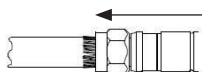

Fig. 2
5. Push the connector over the prepared cable with the revolving nut first, to smoothen the dielectric (Fig. 2).